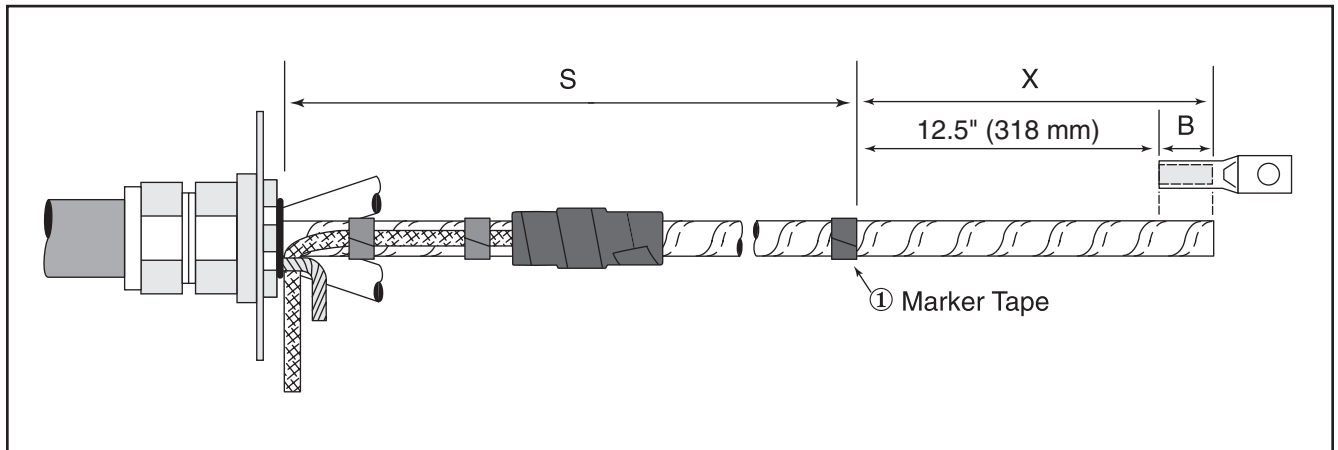

Figure 5
3.1 Place a vinyl tape marker on each cable phase leg at dimension X (① Figure 5).
3.2 Determine required phase re-jacketing sleeve length (Distance "S" Figure 5).